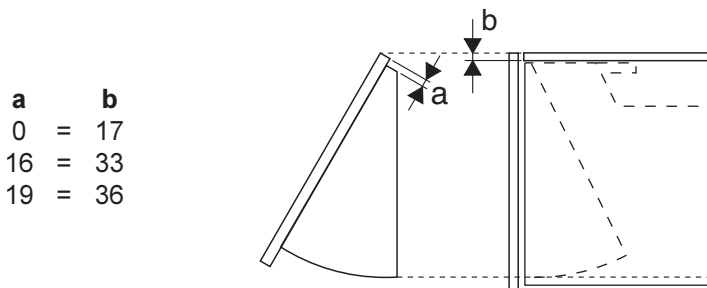

Fig. 12
- Fit the visor upon the internal side of the furniture door so that the line previously marked on it, is visible through the two triangles holes located on the mid upper and lower side of the visor, having care to respect the distance from the visor to the higher edge of the furniture door as for the reason mentioned above in **Fig. 12**.